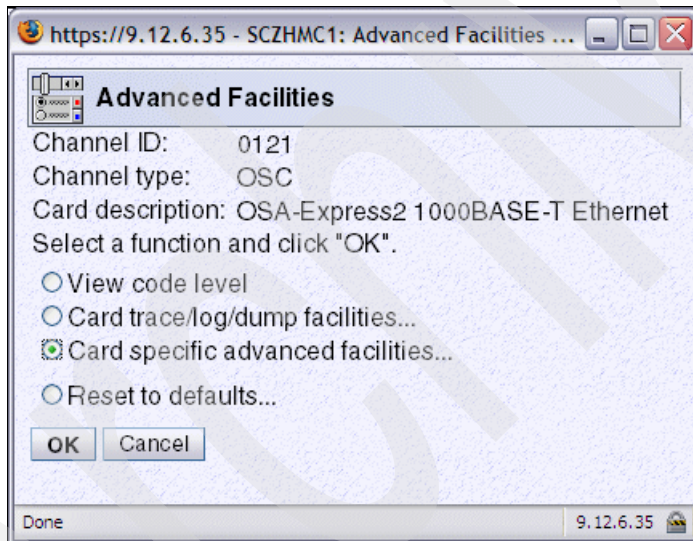

Figure 4-28 HMC - OSA Advanced Facilities (Card specific)
5. Select the radio button **Card specific advanced facilities...**, then click **OK** (Figure 4-28).